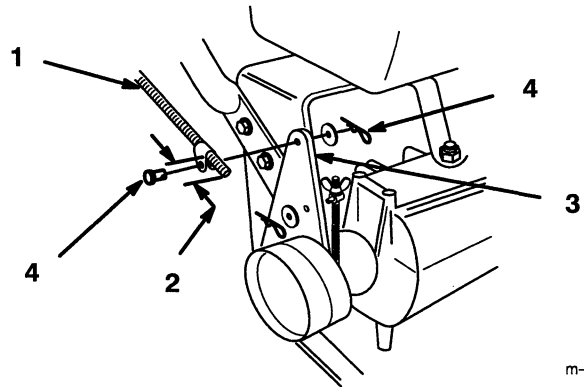

Figure 7
1. Thread rod fittings equal distance onto each control rod. For a starting point thread on approximately 2 in. (51 mm) (Fig. 7).
2. Slide clevis pins through rod fittings and mounting holes in idler brackets (from outside) (Fig. 7). Secure with washers and hairpin cotters (Fig. 7).